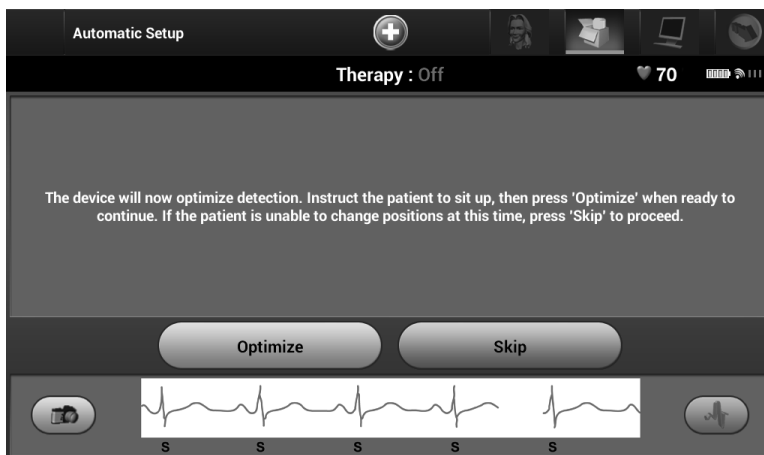

Figure 25: *Automatic Setup screen*
6. The Automatic Setup Sensing Optimization screen will be displayed. The programmer will display a message requesting that the patient sit up; however, this process can be omitted during the implantation procedure by selecting the Skip button (Figure 25).